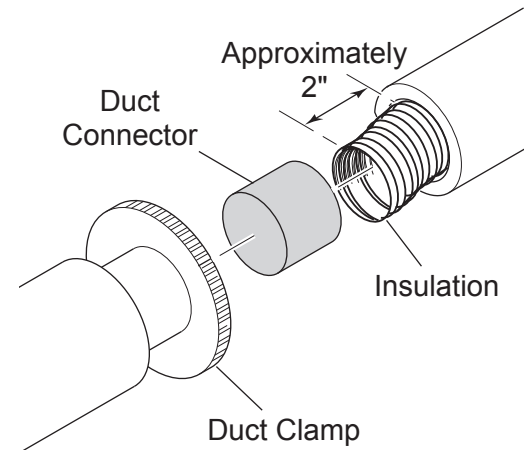

Figure 21 - Installing Duct Connector 403
7. If the duct is the insulated type, push the insulation back from one end of the duct approximately 2". See *Figure 21*.